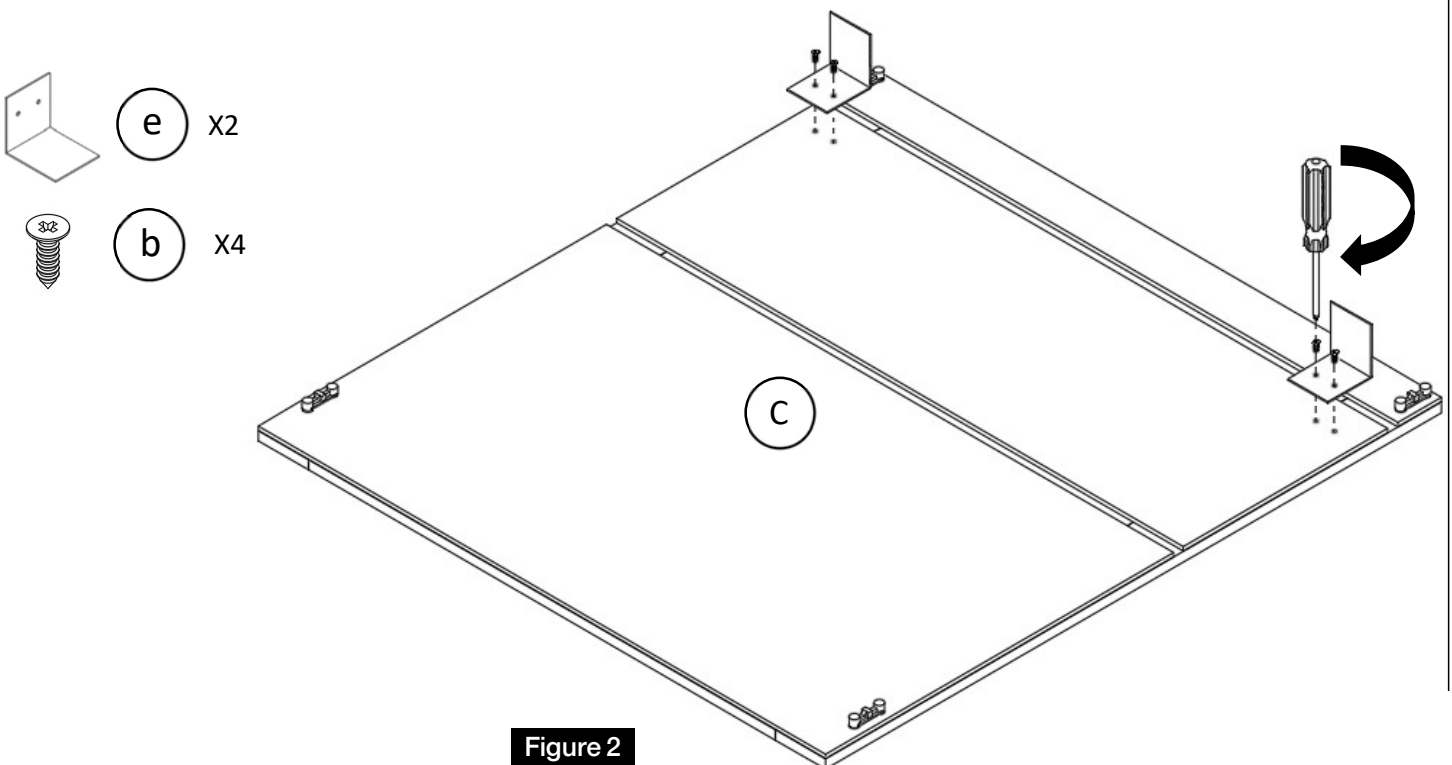

Figure 2
- 2** Install the glide brackets (e) to the Back Panel (C) using screws (b). (Figure 2)